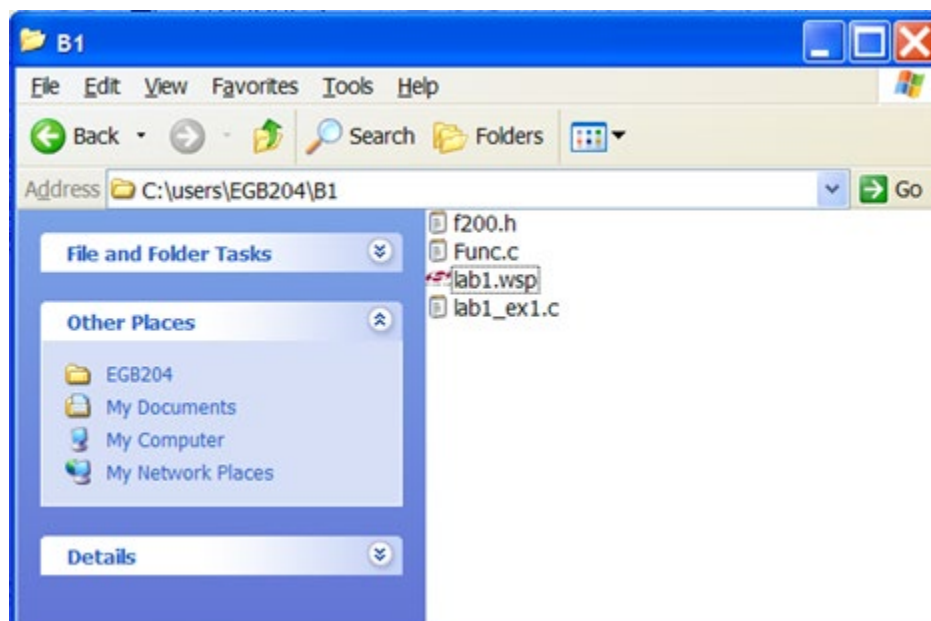

Figure 6.3
6.4 By now, your working directory should consist of four files (see figure 6.3).